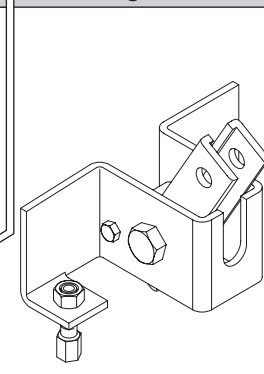

Fig. 25
**16.1) FUSE REPLACEMENT (Fig.25)**
Remove the rubber protection from the fuse-carrier. Remove the fuse (Fig.25, Ref.A) to be replaced and replace it with a new one. After completing this operation, re-fit the rubber protection.